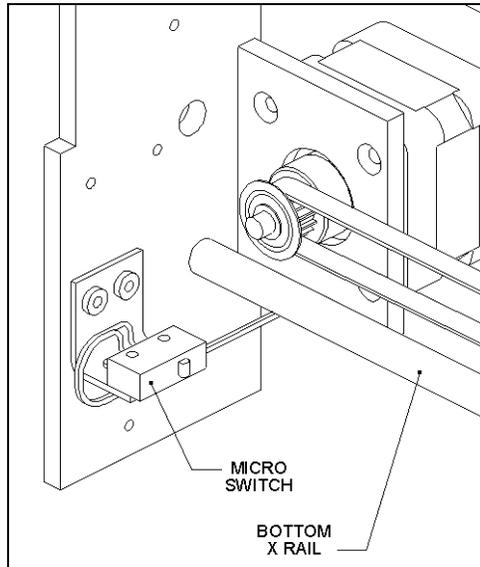

Figure 13-17 X Motor Mounting Detail
- 3 Remove the four M3 x 8mm Flathead screws that mount the motor to the bracket (Figure 13-17).
The X-Drive Microswitch is mounted on the left plate (Figure 13-17).